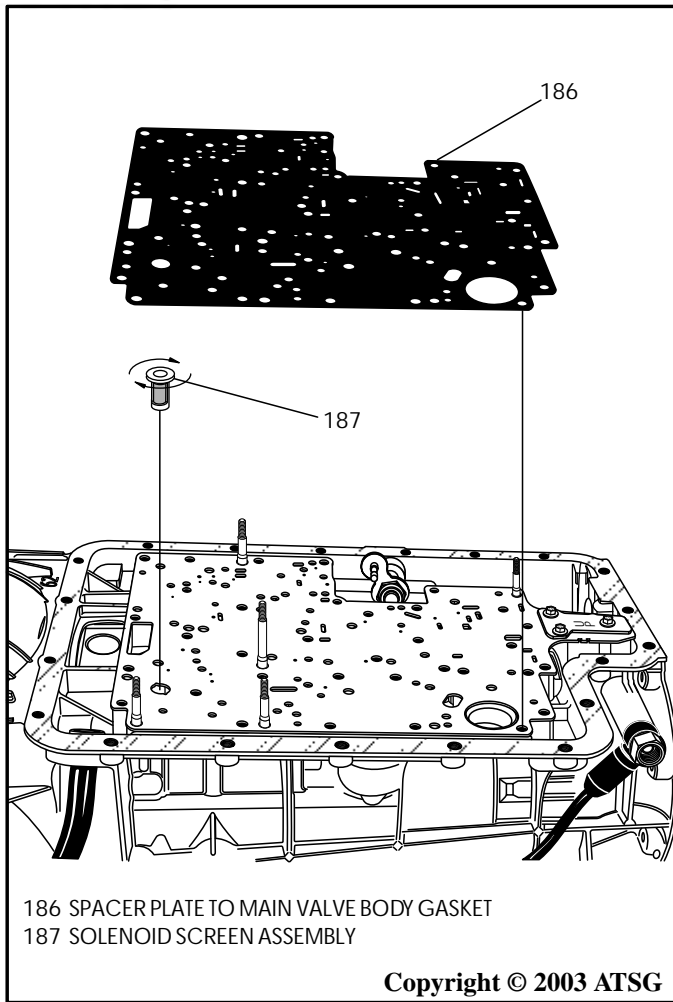

Figure 191
6. Install the solenoid screen into the spacer plate, as shown in Figure 191, and rotate clockwise to lock in place.
7. Install the spacer plate to valve body gasket on spacer plate, as shown in Figure 191.